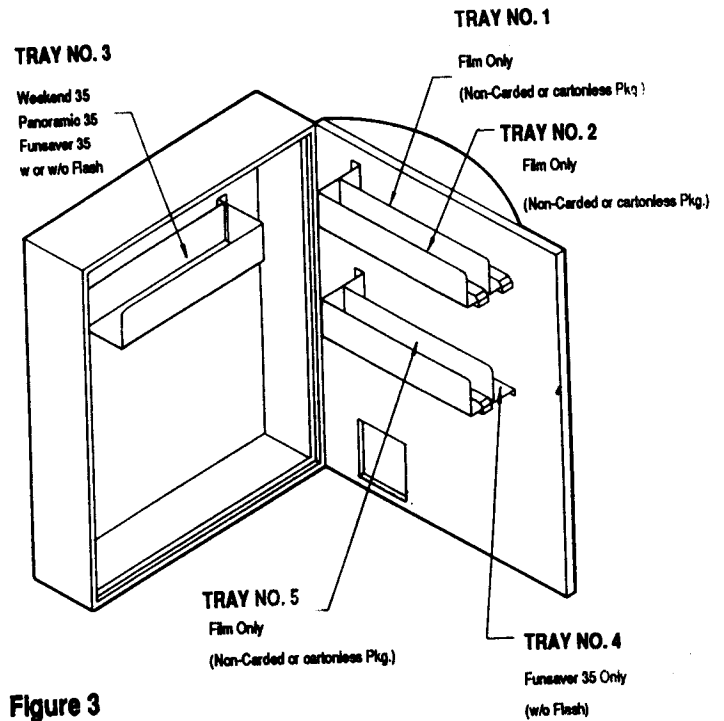

Figure 3
1. Select items to be dispensed and assign helix position for each product. Selections 1, 2, and 5 are designed to accommodate *non-carded* or *cartonless* film package. Selection 3 is designed to accommodate all models of Single Use Cameras. Selection 4 is designed to accommodate Funsaver 35 (w/o flash) only (see fig 3).